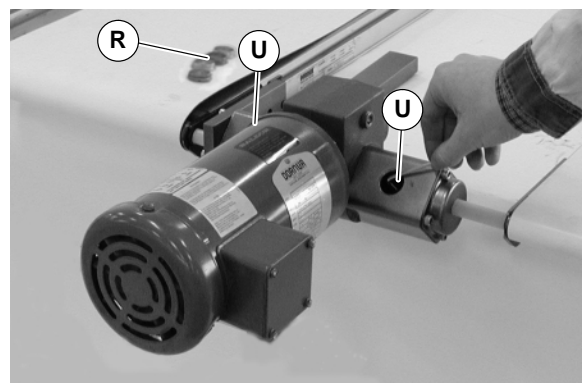

Figure 23
- 17.** Tighten coupling hex shaft set screws (U of Figure 23). Replace inspection plugs (R).